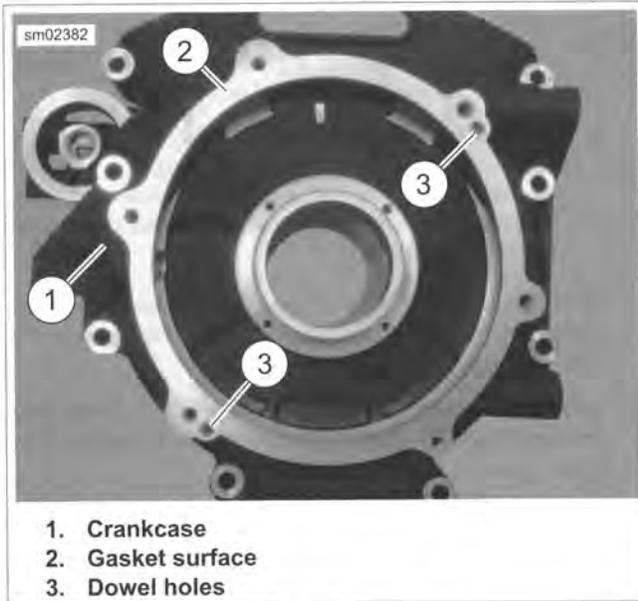

Figure 5-26. Crankcase
2. See Figure 5-26. Position gasket on gasket surface (2). Verify dowels in gasket engage dowel holes (3).